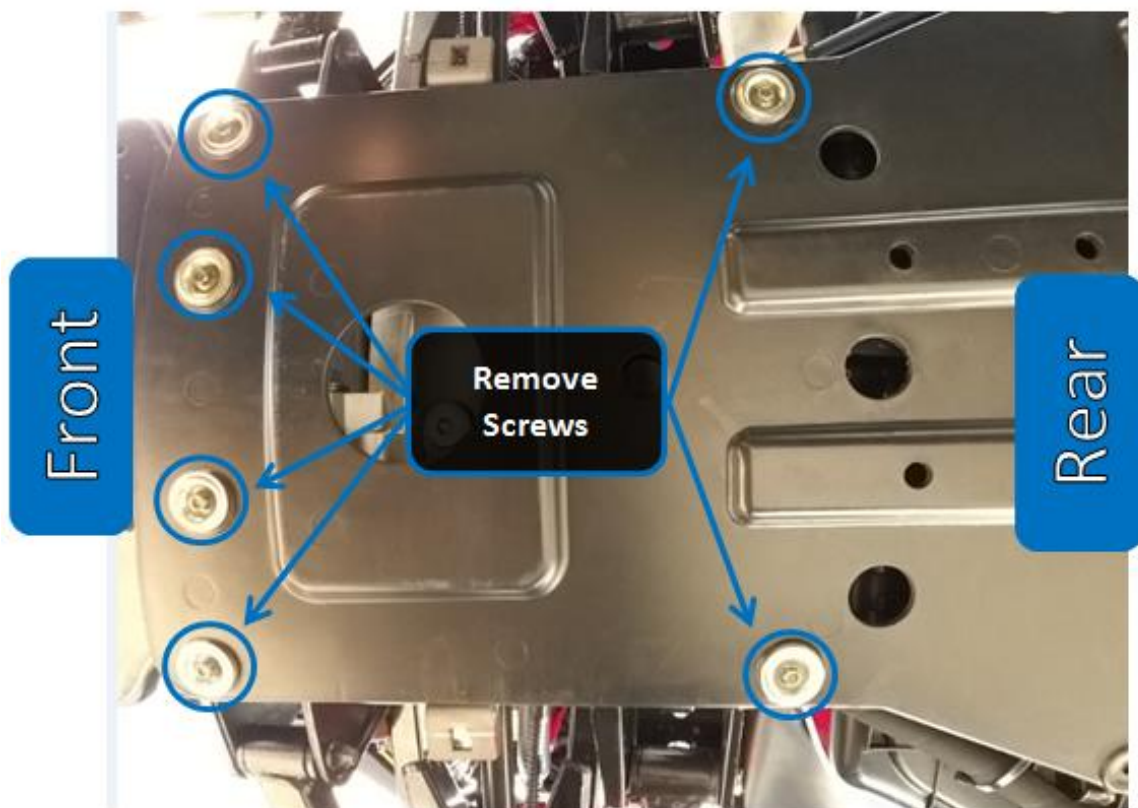
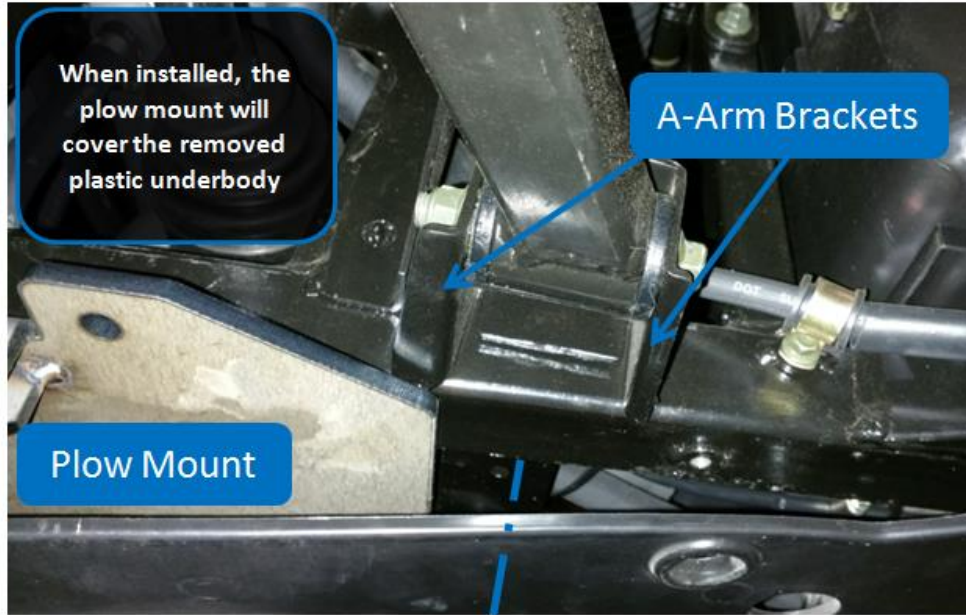
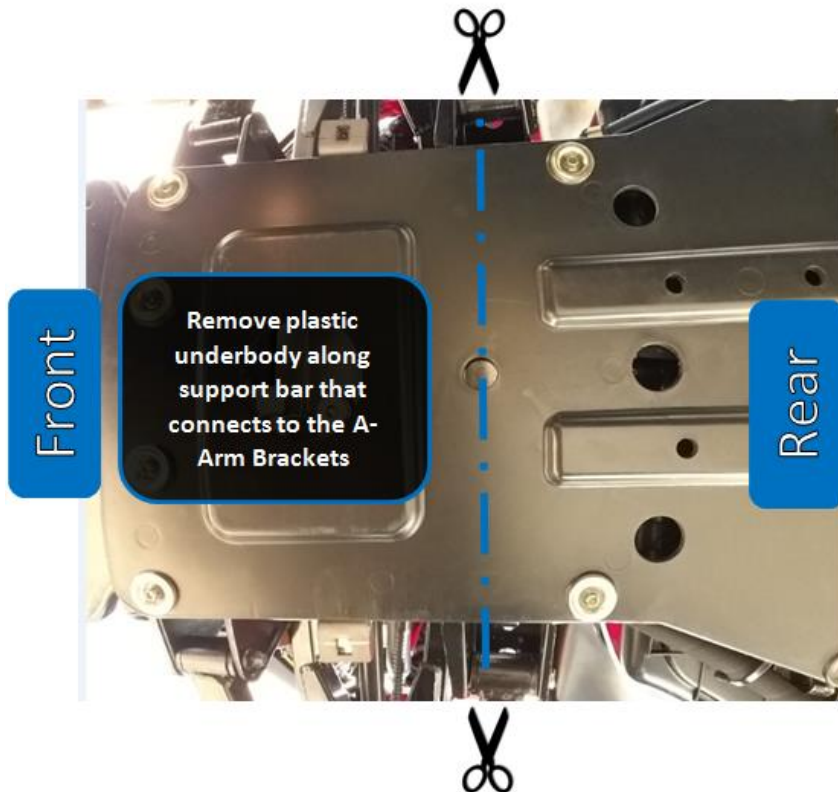

Figure 2
Figure 3
Figure 4
1. Begin by trimming the front portion of the plastic underbody on the Coleman 800. Remove the (6) front screws to gain additional access to the plastic underbody. Use a razor blade and straight edge to score the plastic several times until it can be removed. See Figure 2, Figure 3, and Figure 4.